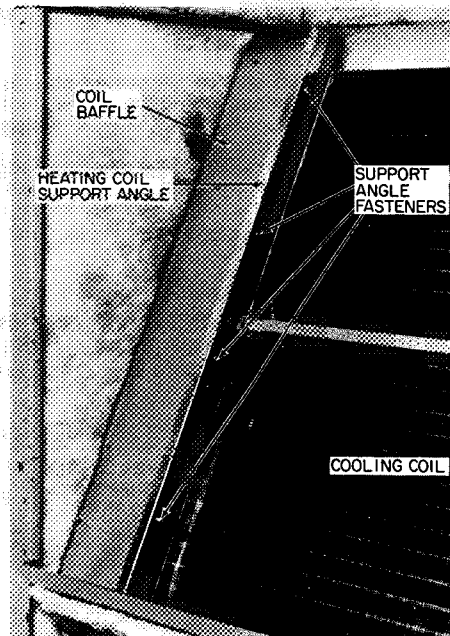

Fig. 2 — Left-Hand Coil Support Angle Mounted on Coil Baffle (Typical for 016 and 024 Sizes)
3. Fasten coil support angle to coil baffle with sheet metal screws included in bag of fasteners. See Fig. 2.